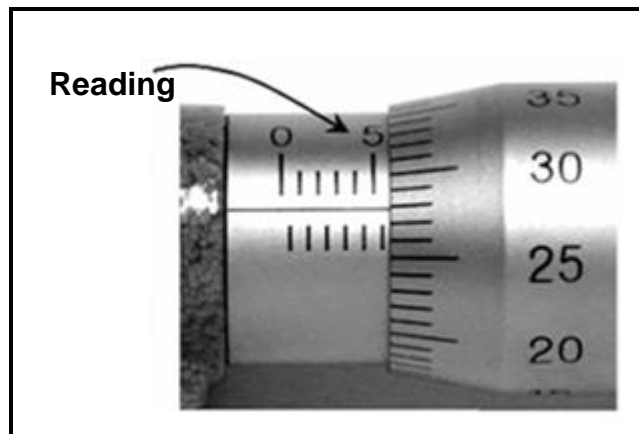

FIGURE 4.6
4.6 What is the reading on the 0–25 mm screw-thread micrometer in FIGURE 4.6 below?